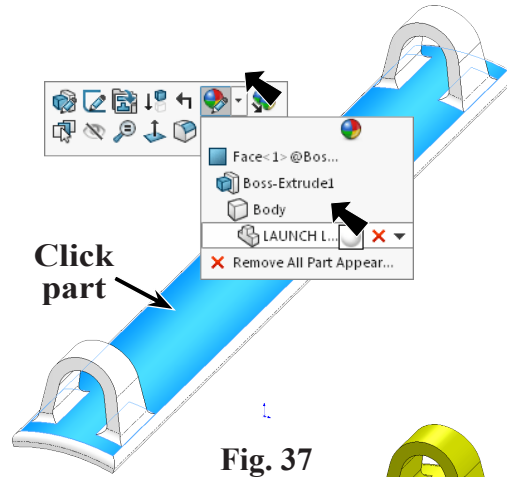

Fig. 37
Step 1. Click the part, click **Appearance Callout**  on the context toolbar and click **LAUNCH L** , Fig. 37.